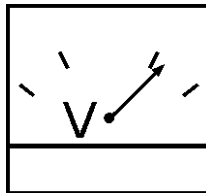

Figure 45. AC Voltmeter
10. The generator's voltage meter (Figure 45) displays the 100 VAC in **VOLTS**. If the voltage is not within the specified frequency tolerance,